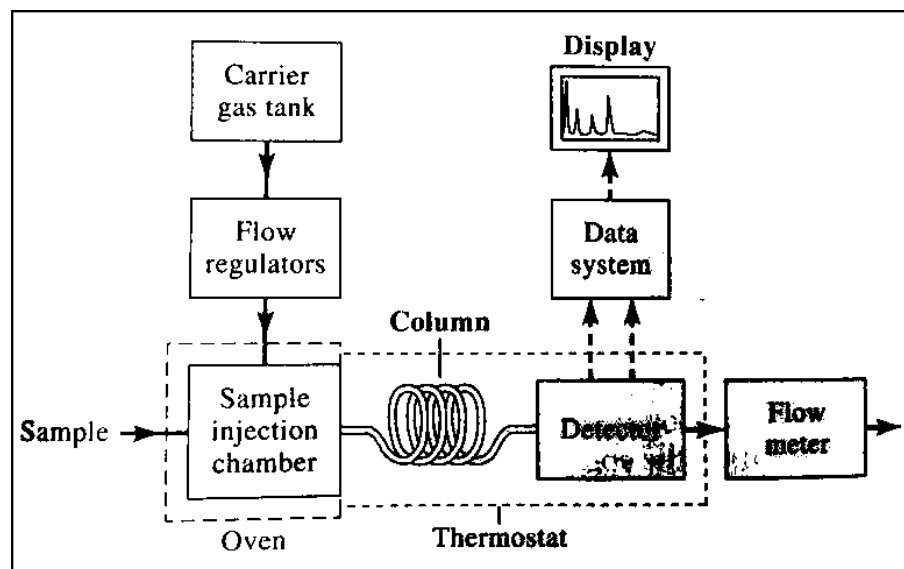

Figure 1 Block diagram of GC-MS (1)
Figure 1 shows a block diagram of the GC-MS. The mobile-phase gas is called the carrier gas, which must be chemically inert. This gas is most often helium, however, argon, nitrogen, and hydrogen are also used. These gases are held in pressurized tanks and use pressure regulators, gauges, and flow meters to control the flow rate of the gas. Flow rates usually range from 25-150 mL/min with packed columns and 1-25 mL/min for open tubular capillary columns, and are assumed to be constant if inlet pressure is constant. This is often accompanied by a molecular sieve to purify the gas before it is used. (1)